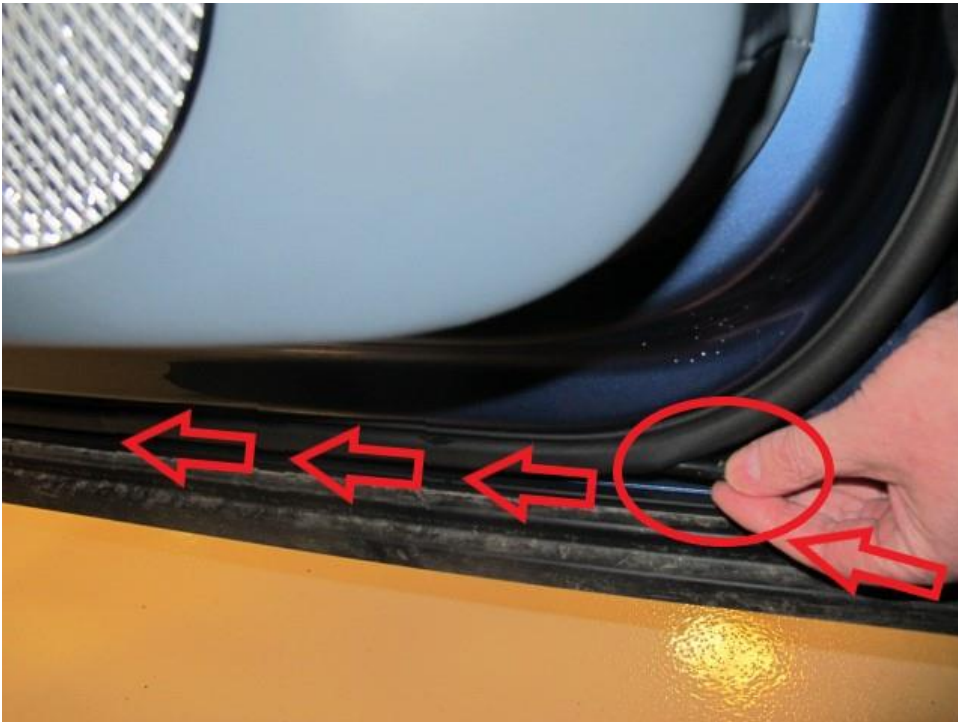

Figure 7
7) Referring to Figures 7 and 8 - Fully install the 550mm length of tubing through the rear door seal lower drain hole